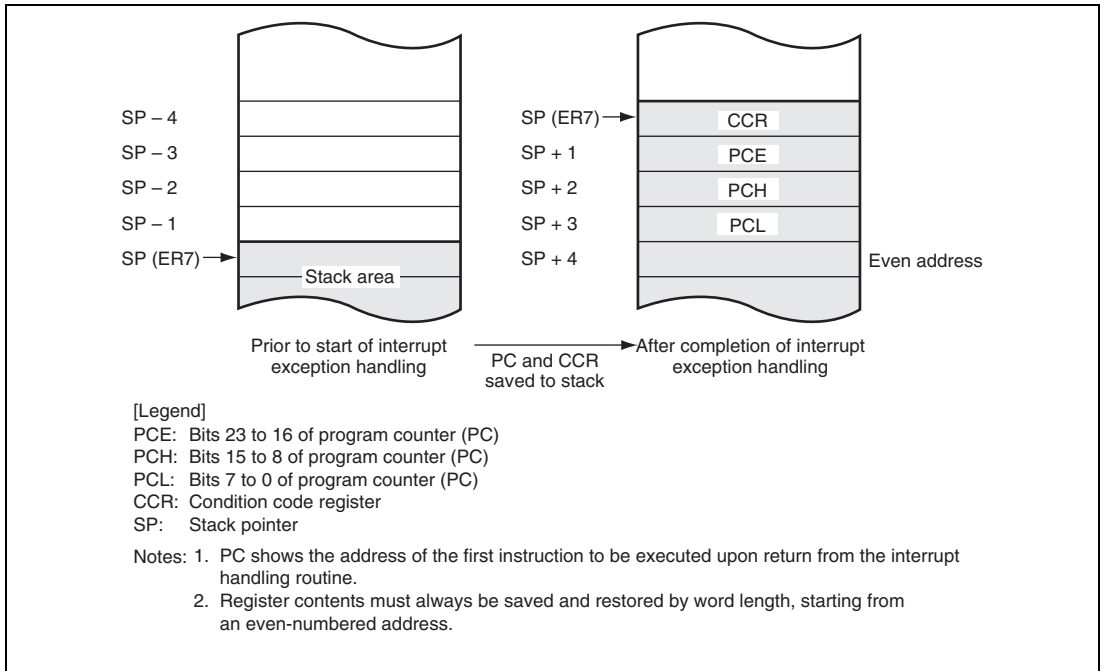

Figure 3.2 Stack Status after Exception Handling
4. If the CPU accepts the interrupt after processing of the current instruction is completed, interrupt exception handling will begin. First, both PC and CCR are pushed onto the stack. The stack status at this time is shown in figure 3.2. The PC value pushed onto the stack is the address of the first instruction to be executed upon return from interrupt handling.